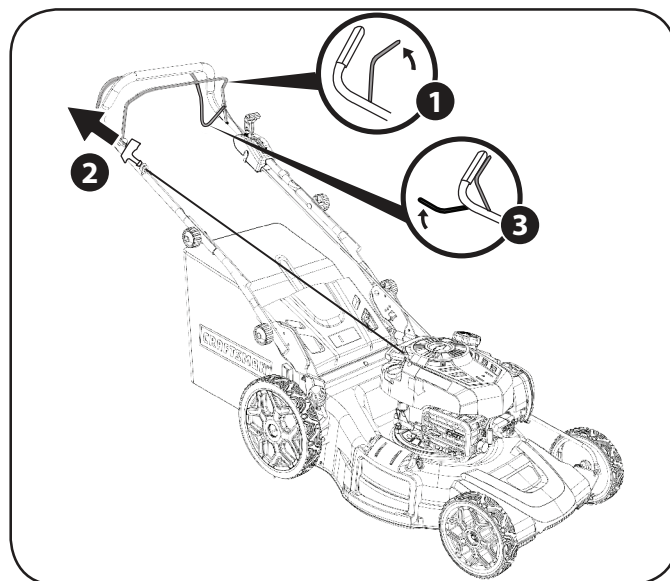

Figure 11
1. Hold the blade control against the upper handle (Figure 11).
2. Start the engine (Figure 11).
3. Once the engine is running, pull and hold the drive control handle together with the blade control handle to propel the mower forward at the speed set on the speed control lever (Figure 11). Once pressure is released from the drive control it will return to the neutral position and the drive will be disengaged.